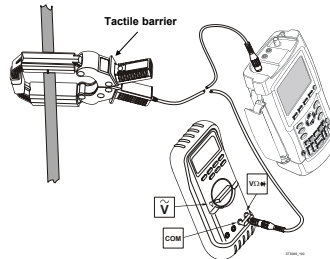

Figure 8. Measurement Setup
1. Connect the I3000s Current Clamp to the desired input on the measuring instrument. When you are using a multimeter, use the Dual Banana to BNC Adapter (FM9081/001) to connect the Current Clamp to the input. (See Figure 8.)